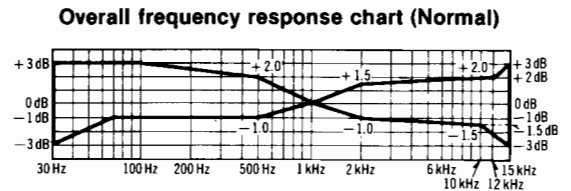
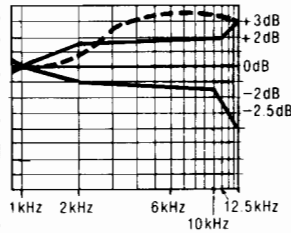
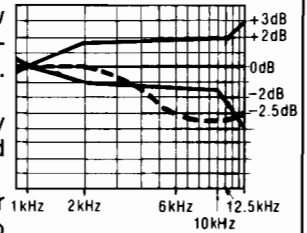

Fig. 12
Fig. 13
Fig. 14
6. Playback the signals recorded in step 5, and check if the frequency response curve is within the limits shown in the overall frequency response chart for normal tapes (fig. 12). (If the curve is within the charted specifications, proceed to steps 7, 8 and 9.)
When the curve exceeds the overall specified frequency response chart (fig. 12) as shown in fig. 13.
- 2) Repeat steps 5 and 6 for confirmation (Proceed to steps 7, 8, 9 and 10 if the curve is now within the charted specifications as shown fig. 12.)
- 3) If the curve still exceeds the specifications (fig. 12), increase bias current further and repeat steps 5 and 6.
When the curve falls below the overall specified frequency response chart (fig. 12) as shown in fig. 14.
- 2) Repeat steps 5 and 6 for confirmation (Proceed to steps 7, 8, 9 and 10 if the curve is now within the charted specification as shown fig. 12.)
- 3) If the curve still falls below the charted specifications (fig. 12), reduce bias current further and repeat steps 5 and 6.